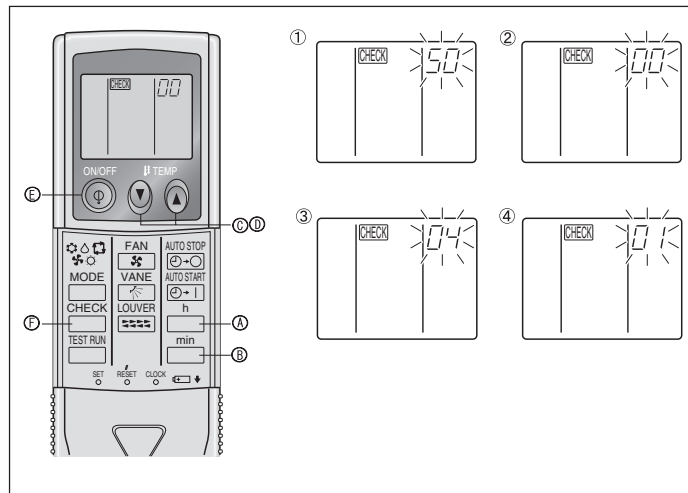

Fig. 6-11
2) For IR wireless remote controller (Fig. 6-11)